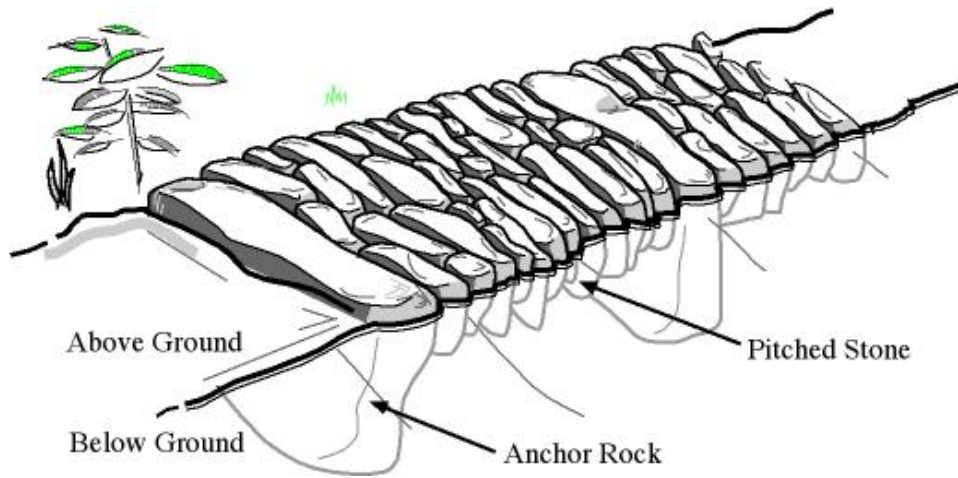

Figure 5: Stone Pitching
3.3 Armored Tread/Stone Pitching (figure 5)